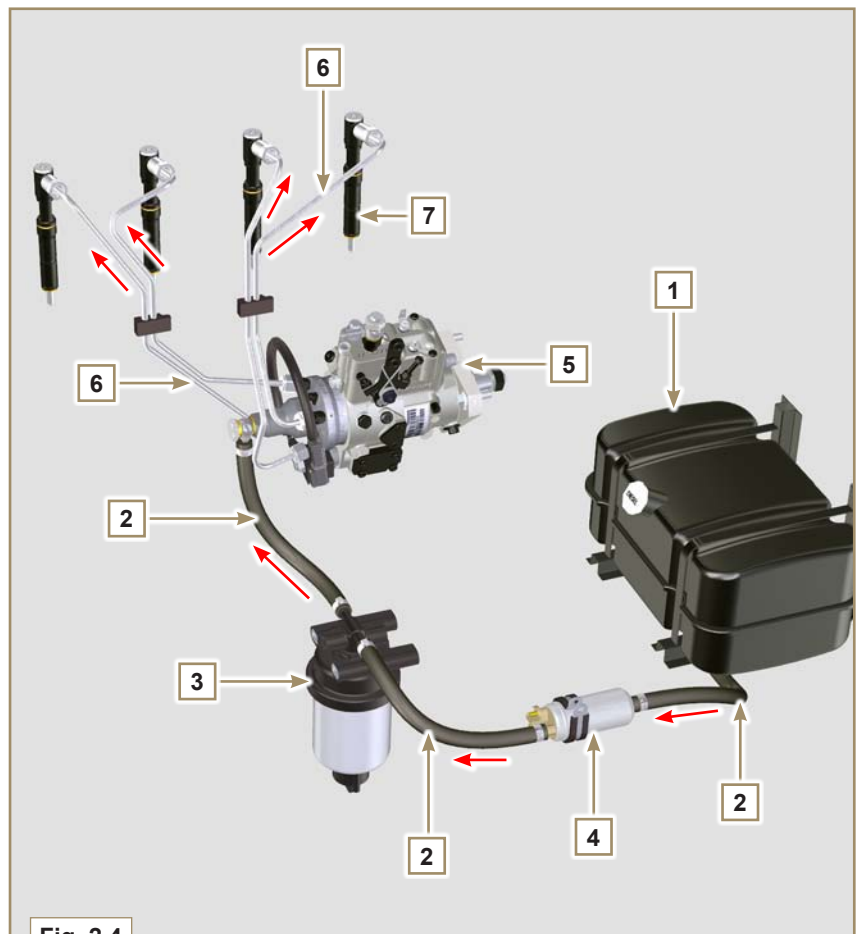

Fig. 2.4
2.9.1 Supply system (Fig. 2.4)